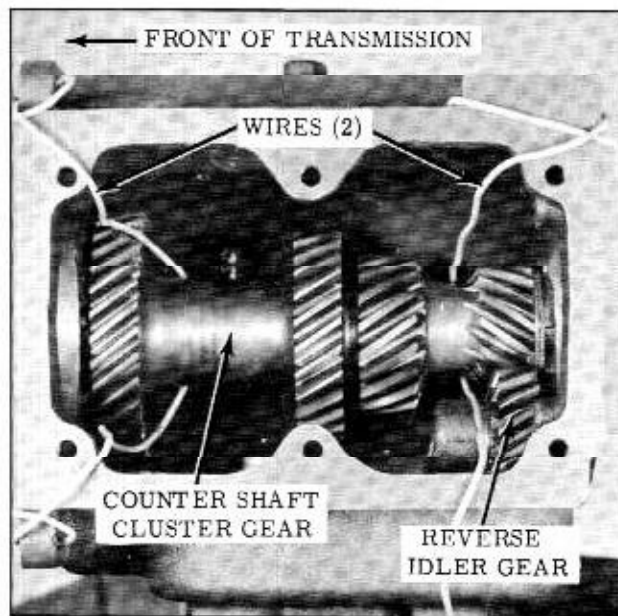

Fig. 10-14 Positioning Cluster Gear
12. Position two pieces of wire (14 gauge electrical) in the bottom of the case as shown in Fig. 10-14. These wires will be used later to lift the cluster gear into position for installation of countershaft.